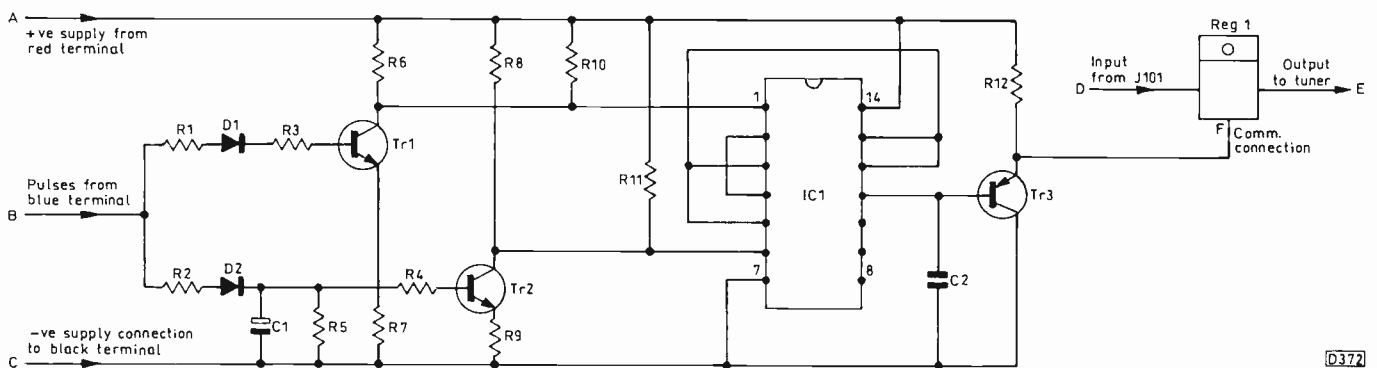
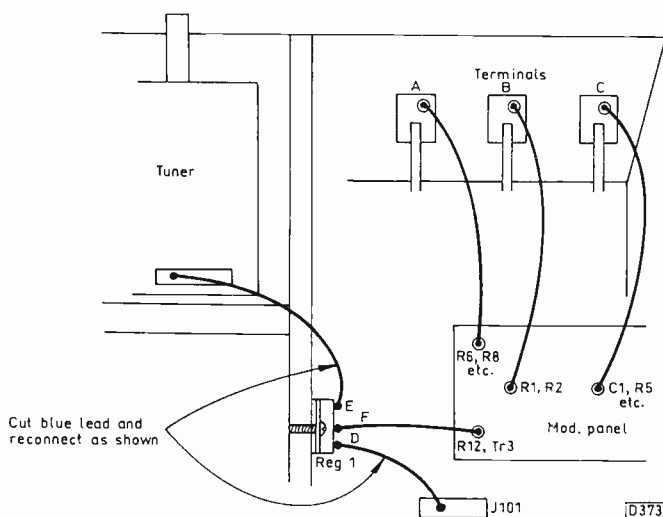

Fig. 1: The polarisation switching circuit. The voltage at point F alters the output from the regulator chip REG1.
Fig. 2: Connections between the switching circuit and the rest of the receiver.
The modification described in this article enables the Uniden UST7007 satellite receiver to be used with a standard- or bullet-type Marconi LNB. The polarisation switching required is provided by the circuit shown in Fig. 1. It can be built on stripboard or any other convenient base – there is nothing critical. Fig. 2 shows the connections to the receiver. The Uniden UST7007 has been available cheaply in recent months, generally minus LNB.
Locate the inside of the three LNB polarity screw terminals at the rear of the receiver, the threaded screw hole near the front of the right-hand central support as seen from the front of the receiver (this is the point where the added regulator is to be fitted), plug/socket J101 at the inside front of the case and the blue lead to plug J101. These points are illustrated in Fig. 2. Proceed as follows:
(3) Strip and tin the ends of the four connection leads required.
(4) Solder the cut blue lead from the tuner to the regulator's output pin (right-hand side). This is identified as point E in Figs. 1 and 2.
(5) Solder the blue lead from plug J101 to the regulator's input pin (left-hand side), i.e. point D.
(6) Apply a small amount of solder to the inside legs of the three LNB polarity screw terminals at the right rear of the receiver's case.
(7) Solder lead A to the inside leg of the red terminal.
(8) Solder lead B to the inside leg of the blue terminal.
(9) Solder lead C to the inside leg of the black terminal.
(10) Solder the lead from R12/Tr3 on the modification panel to the regulator's central, common connection – point F in the diagrams.
(11) You'll find that the modification switch panel will sit comfortably inside the right-hand side of the case. Refit the receiver's lid and screws.